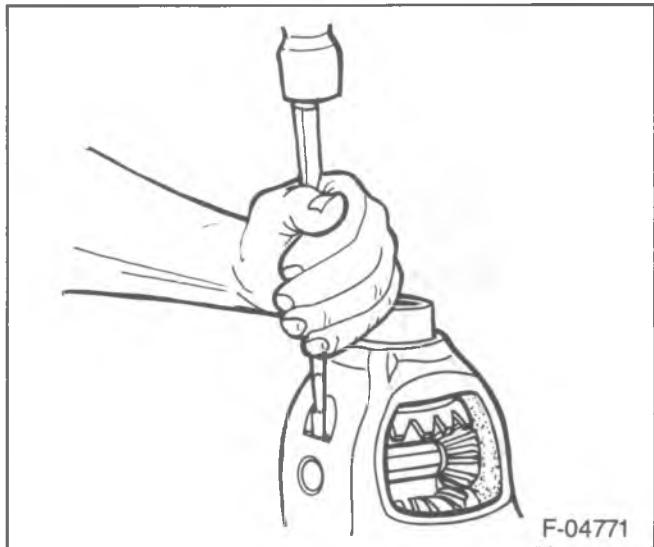
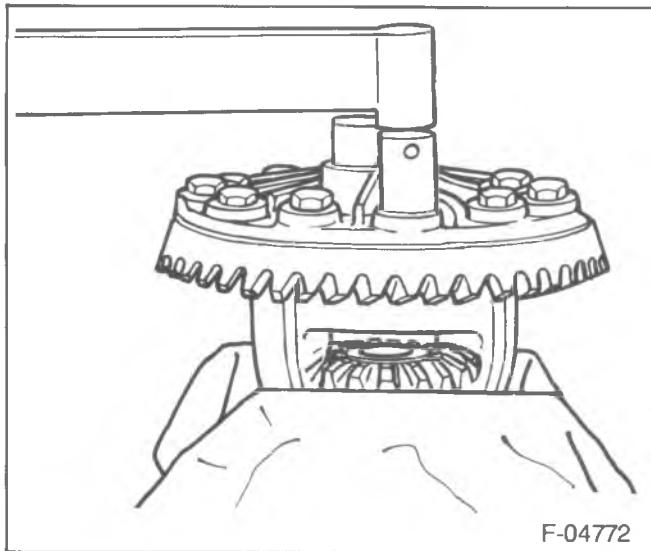

Figure 100—Installing the Lock Pin
Figure 101—Installing the Ring Gear Bolts
4. New pinion thrust washers (26).
5. Pinion shaft (28).
6. Lock pin (29) (figure 100).
7. Ring gear (20) to the differential case (22).
8. New ring gear bolts (23) (figure 101).